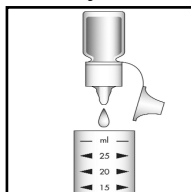

Figure 2
2. Add 3 drops of A-9500 Activator Solution (fig 2). Stir quickly with the tip of the ampoule to mix the contents of the cup.